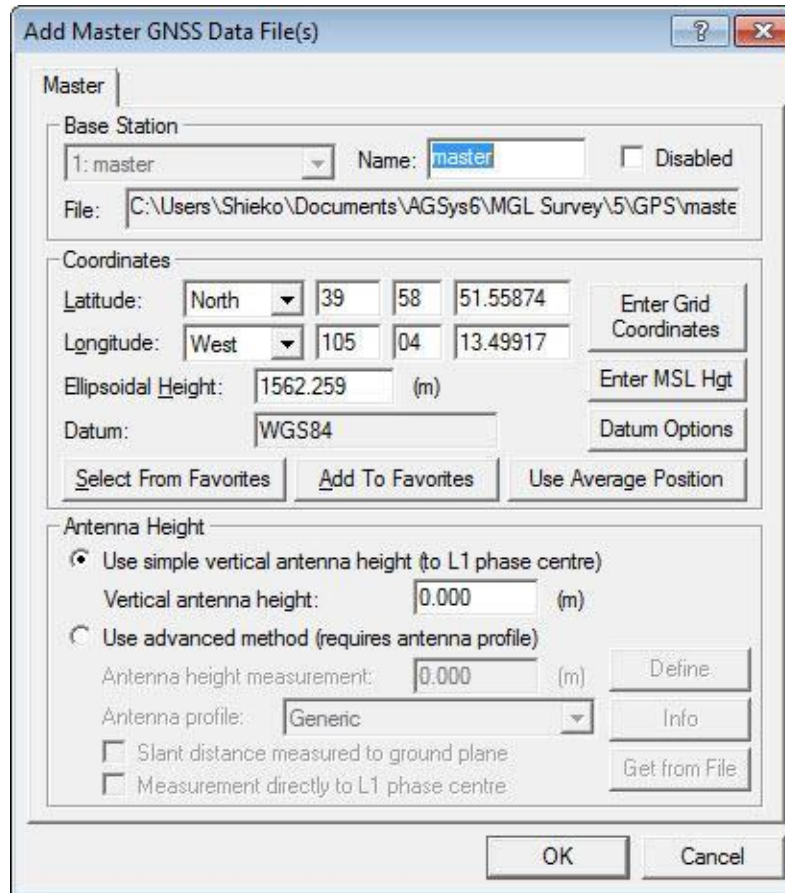

Figure 7-6 Add Master GNSS Data File(s) Dialog
- In the **Add Master GNSS Data File(s)** dialog (Figure 7-6), navigate to the folder containing the converted files (the browser should open in this folder) and highlight the master.gpb file and click **Open**.